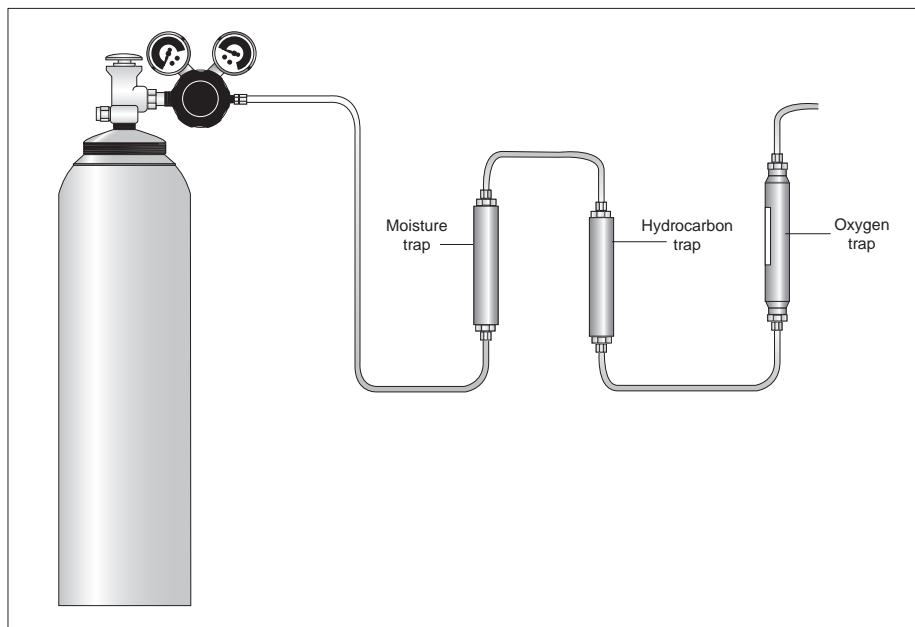

Figure 4-1. Gas Trap Configuration
You may wish to use traps, such as moisture or oxygen traps, in your gas supply line. Traps are especially necessary if you are unsure of the purity of your gas supplies. Refer to *Gas and Plumbing Requirements* in Chapter 1, *Laboratory Preparation*, for more information about gas purity requirements and appropriate traps for your GC. Figure 4-1 shows the proper order of traps in a gas supply line. Refer to your trap's instruction manual for specific purging and installation requirements.
1. Determine the location for the trap in your supply line. Figure 4-1 shows the recommended trap order.